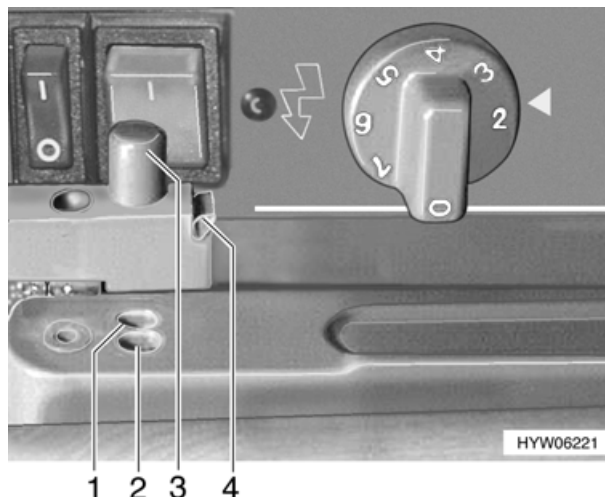

Fig. 82 Lock on refrigerator door
- Push the green retainer lock (Fig. 82,4) to the side to release the locking device. The bolt (Fig. 82,3) will trip.
- Press bolt (Fig. 82,3) down, so that it engages in the outer latched position (Fig. 82,2).
- Press bolt (Fig. 82,3) down so that it engages in the inner latched position (Fig. 82,1). The refrigerator door will then stay slightly open.